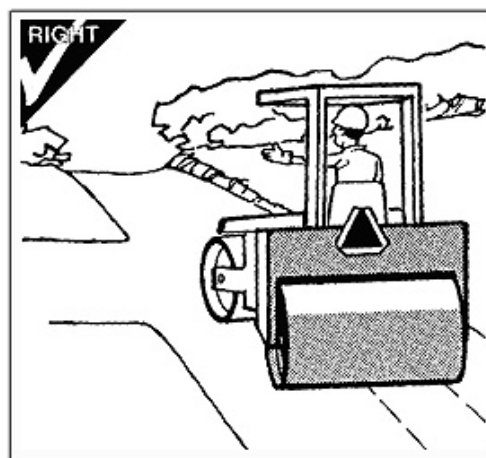

Figure 1-12
- Always obey local traffic rules when driving the vehicle on public roads such as, for example, turn on the front headlights and direction lights and use the slow machine warning at the rear (mandatory in some countries). Do not exceed the speed limits of each road and maintain a safe distance for the braking (figure 1-12).